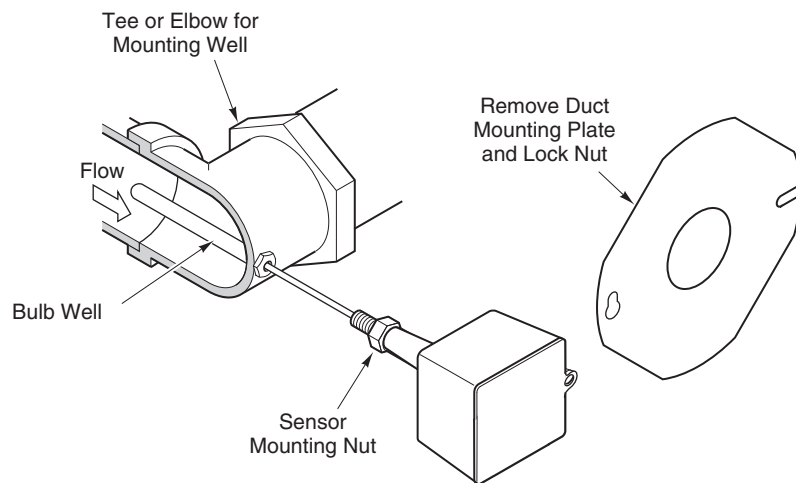

Figure-2 MN-SDT Immersion Mounting.
1. Remove the lock nut and duct mounting plate from the transmitter (Figure-2).